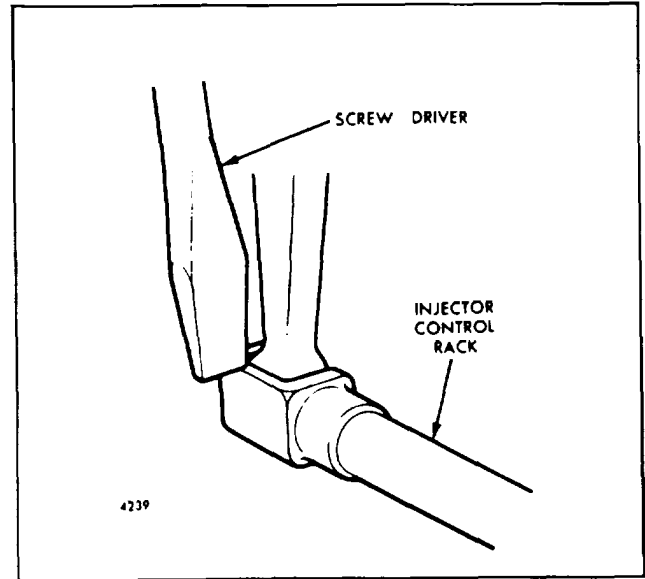

Fig. 4 - Checking Injector Control Rack "Spring"
- 5 To be sure the control lever is properly adjusted, hold the speed control lever in the maximum speed position and press down on the injector rack with a screw driver or finger tip and note "rotating" movement of the injector control rack (Fig 3) when the speed control lever is in the maximum speed position. Hold the speed control lever in the maximum speed position and, using a screw driver, press downward on the injector control rack. The rack should tilt downward (Fig 4) and when the pressure of the screw driver is released, the control rack should "spring" back upward.